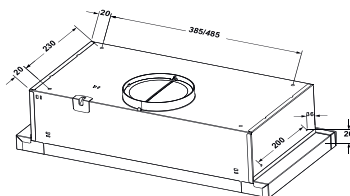

Fig.4
6.6 Connect the bubbler to the turbine outlet (with pipe adapter of bubbler $\varnothing 150 \times 120 \text{ mm}$). Remove the other end of the bubbler into the ventilation shaft (Fig. 4 / 4.1).